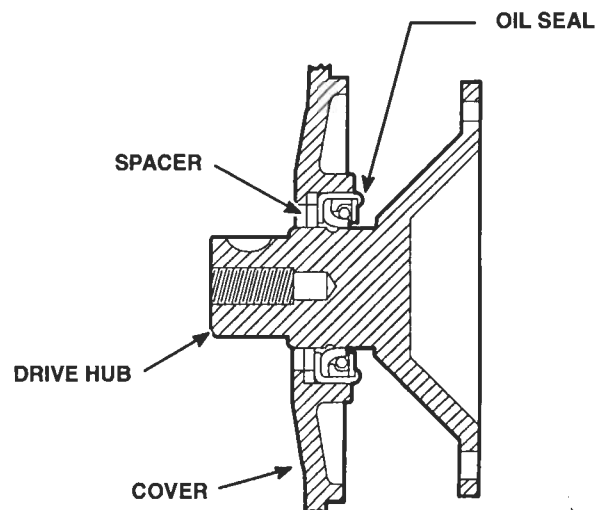

Figure 6. Location of Oil Seal Spacer
2. Insert a clean, lint free cloth in the flywheel housing opening to prevent bolts from accidentally falling in the gear train. Align the bolt holes in the accessory drive plate and spacer (Figure 6.) (when used) or accessory drive hub, with the tapped holes in the balance gear. Then secure the plate and spacer (when used), or drive hub, with four bolts (and lock washers or lock wire, if used).